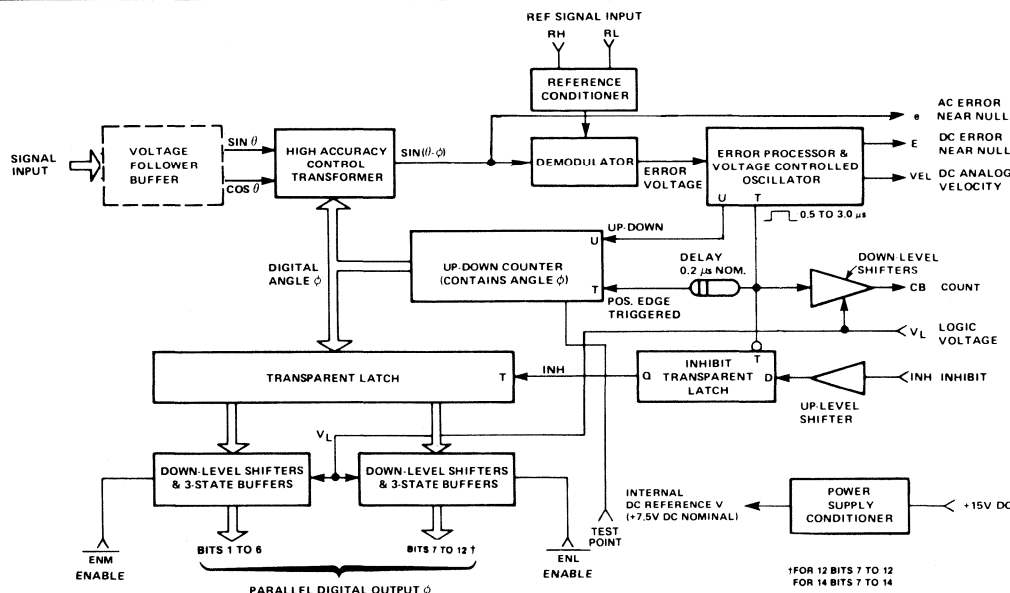

FIGURE 1. BLOCK DIAGRAM
Digital outputs include Count (CB), which is useful for turns counting applications. An Inhibit (INH) input provides a means for freezing parallel data in the transparent latch (figure 1), while the converter continues to track the input. Parallel data, which is 3-state natural binary angle is available in two bytes for interfacing with